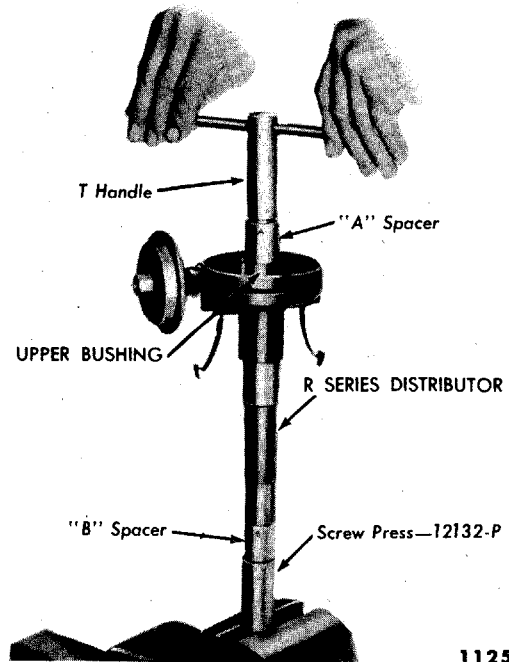

Fig. 24—Installing Bushing
(5) **BUSHING INSTALLATION.** Place a new lower bushing in position on the bushing installation tool fig. 24. Place the distributor housing and the "A" spacer on the tool. Turn the T-handle until the lower bushing is flush with the distributor housing. Remove the T-handle and the "A" spacer. Position the upper bushing on the housing with the lock ring end up. Place the "A" spacer over the bushing as shown in fig. 24. Turn the T-handle until the spacer bottoms firmly against the distributor housing. Burnish both bushings to the proper size with a burnishing tool as shown in fig. 25.